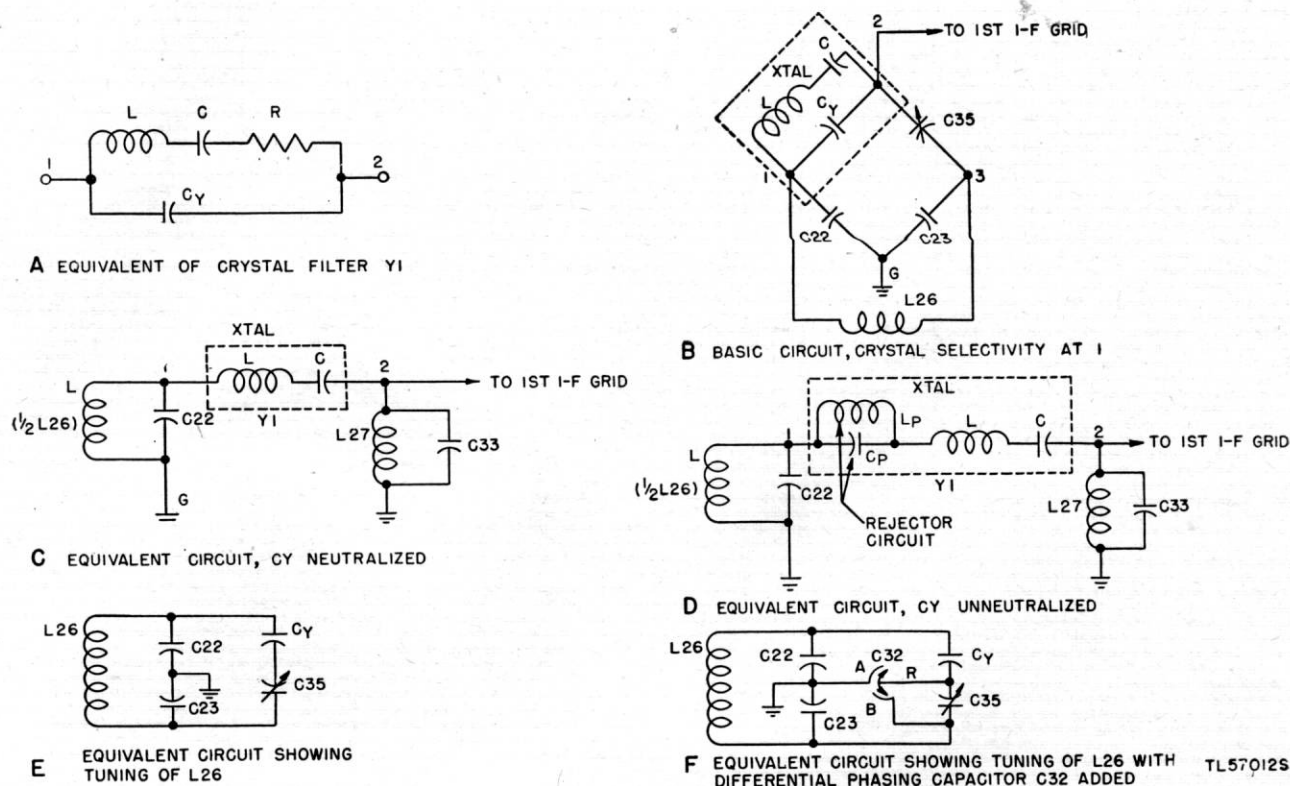

Figure 28. Radio Receiver BC-779-B, functional and equivalent diagrams of crystal filter circuit.
(4) Refer to appendix III for circuit details of Improvement Kit MC-531.
61. Crystal Filter (fig. 28)
a. EQUIVALENT CRYSTAL CIRCUIT. The equivalent electrical circuit of a crystal is shown in "A," figure 28. The circuit, and hence the crystal, are resonant at two frequencies: The frequency at which the reactance of L is equal to the reactance of C (series resonance), and the frequency at which the effective reactance of L-C (in series) is *inductive* and *equal* to the capacitive reactance of C_Y (parallel resonance). At the series-resonant frequency the crystal acts as a low-impedance connection between 1 and 2. At the parallel-resonant frequency the crystal acts as a high impedance between 1 and 2.
b. BASIC FILTER CIRCUIT ("B," fig. 28). Capacitors C22 and C23 (100 mmF each) are connected in series across the secondary of i-f input transformer L26, and their junction is grounded to provide a midpoint connection in the resonant circuit L26-C22-C23. Consequently, the capacitor voltages are always of equal amplitude but 180° out of phase. Phasing capacitor C35 (1.5 to 5 mmF) is connected between 3 and 2, and the crystal is connected between 1 and 2.
c. NEUTRALIZATION OF C_Y . Capacitors C22, C23, C35, and C_Y (the capacity between the crystal holder plates) form a capacity bridge; the input is applied to 1 and 3, the output is taken from 2 and G. When capacitor C35 is adjusted so that its capacitance is equal to that of C_Y , the voltage coupled from 3 through C35 to 2 is equal and opposite to the voltage coupled from 1 through C_Y to 2. Under this condition C_Y is neutralized and the crystal acts as a series-resonant circuit only ("C," fig. 28). Since the crystal is resonant at the intermediate frequency, there is (in effect) a direct connection between 1 and 2. As indicated in "C," figure 28, only the voltage across C22 (one-half the secondary voltage) is applied through the crystal to the grid circuit of the first i-f stage.
tance of L - C and the capacitive reactance of C_Y . For simplicity the parallel-resonant circuit is denoted as rejector circuit $L_P C_P$ in "D," figure 28. L_P and C_P denote the effective inductance and capacitance at the parallel-resonant frequency. L and C indicate the effective inductance and capacitance of the crystal at the series-resonant frequency, in this case the 465-kc i.f. In other words, unless C_Y is neutralized, the crystal acts simultaneously as a parallel- and series-resonant circuit. The parallel-resonant circuit $L_P C_P$ has no effect on the 465-kc i.f. but presents a high impedance to, and therefore rejects, the frequency to which $L_P C_P$ is resonant. L and C present extremely low impedance to the 465-kc i-f signal voltage and high impedance to voltages at different frequencies. *With underneutralization the resonant frequency of $L_P C_P$ is higher than 465 kc.*
f. CAPACITOR C_{32} . Capacitor C_{35} , in series with capacitance C_Y , is across L_{26} and affects its tuning ("E," fig. 28). To avoid the detuning effect and to enable shifting the rejection frequency to either side of the i.f., differential PHASING capacitor C_{32} ("F," fig. 28) is used in the radio receiver. Stator sections A and B are so arranged that, as rotor R is turned out of one stator into the other, the capacitance of the first *decreases* by the same amount that the capacitance of the second *increases*. Thus, whether the rotor is entirely engaged in stator A, is at a midpoint, or is entirely in stator B, the effective capacitance across A-B, and therefore across L_{26} , remains constant. Assume that C_{32} , the PHASING capacitor, is set at the arrow position of the PHASING control on the front panel and
(2) CRYSTAL SELECTIVITY switch at 1. When CRYSTAL SELECTIVITY switch SW7 is placed at 1, the short is removed from the crystal. If the secondary of L26 and the parallel-resonant grid circuit, L27-C33, are tuned to 465 kc, each is the equivalent of a high resistance in series with the equivalent series-resonant circuit of the crystal ("C," fig. 28). Consequently, the *Q* and therefore the selectivity of the series-resonant (crystal) filter circuit is reduced, and the bandwidth is several kilocycles wider than that of the crystal alone.
(3) CRYSTAL SELECTIVITY at 2, 3, 4, or 5. Advancing the CRYSTAL SELECTIVITY switch